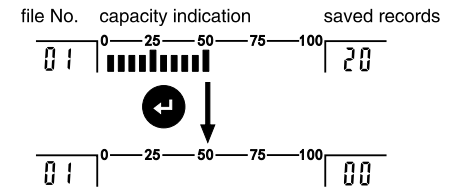

Figure 3-1-2 File deletion process
- b. The deletion process is dynamically displayed in the status area and right and left reading areas. (As figure 3-1-2)